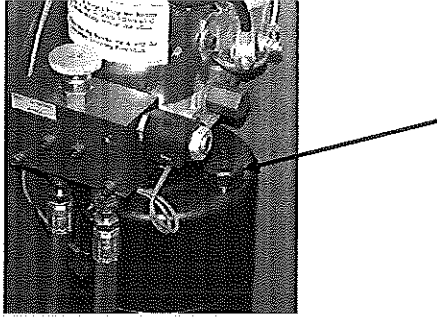

Figure 13
16. Open the right hand cover and locate the hydraulic oil reservoir. See Figure 13. Check the hydraulic oil in the reservoir by unscrewing the black oil fill plug and looking at the dipstick to ensure the oil level is okay. If not, add hydraulic oil to the reservoir. We recommend that you add a high-grade hydraulic fluid equivalent to Tellus T22 so the oil level just covers the dipstick.